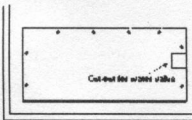

Figure 2
4. Looking at the back of the refrigerator. Remove screws from access cover. (See Figure 2.) **Quick tip:** Have a (SR6N1) 6 in 1 screwdriver handy. Depending on brand and model the screws will be 1/4" nut driver, Phillips, or slotted screw.